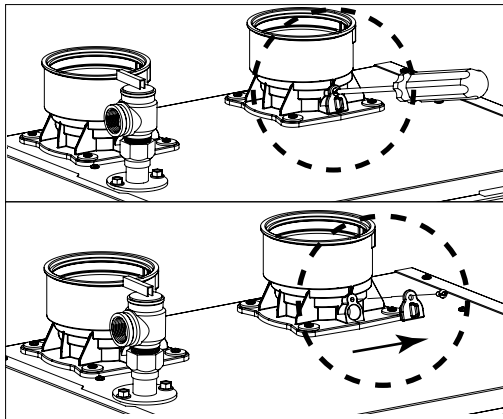

Figure 74 - Combustion Test Port
5. Reinstall the combustion test port - see Figure 74.